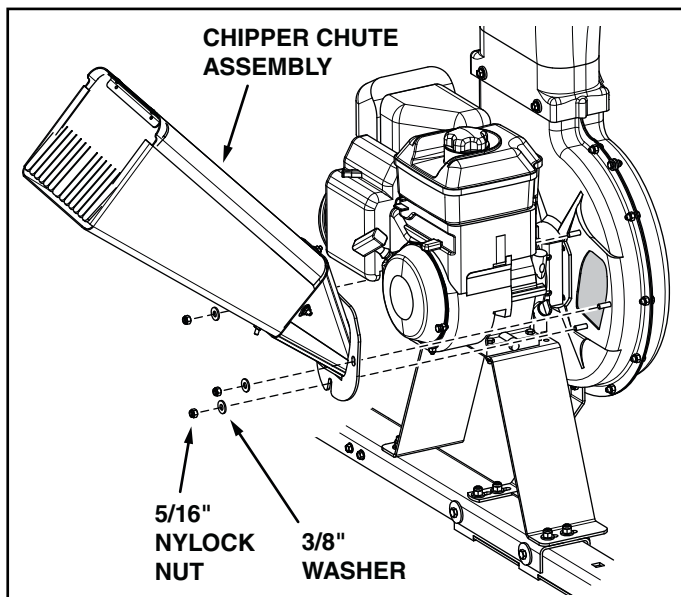

FIGURE 11
17. Attach the chipper chute assembly to the weld bolts on the back side of the impeller housing using three 3/8" washers and 5/16" Nylock nuts. **Tighten**. See figure 11.